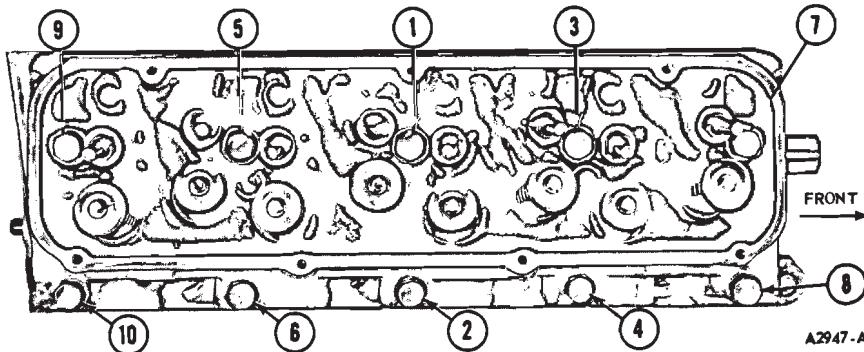

FIG. 12—Cylinder Head Bolt Torque Sequence
2. Place two (2) long cylinder head attaching bolts in two rear lower bolt holes of left cylinder head. Place a long cylinder head attaching bolt in rear lower bolt hole of right cylinder head. Use rubber bands to retain bolts in position until cylinder heads are installed.
3. Position new cylinder head gaskets on block over dowels. Place cylinder heads on block, guiding exhaust manifold studs into resonator or muffler inlet pipe connections, and install remaining attaching bolts (longer bolts in lower row of bolt holes). Tighten all cylinder head attaching bolts in sequence (Fig. 12) in three steps: first to 75 ft-lbs, then to 105 ft-lbs, and finally to specifications.